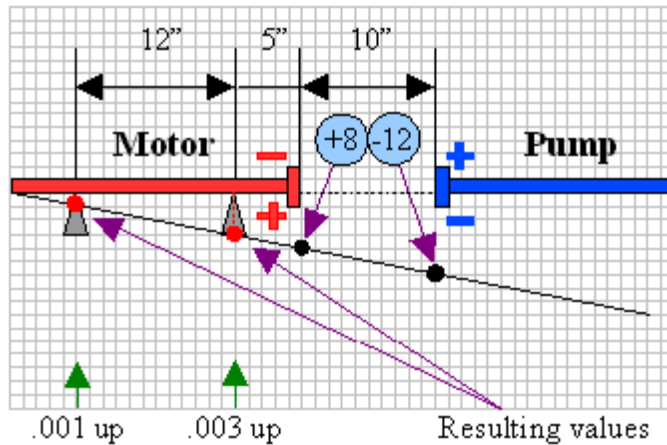

Figure G-3 Vertical alignment.
3. Under the indicator position on the graph paper, mark two points that are each half of the TIR values for the pump and the motor, respectively (Figure G-3). Remember to check the signs on graph paper.